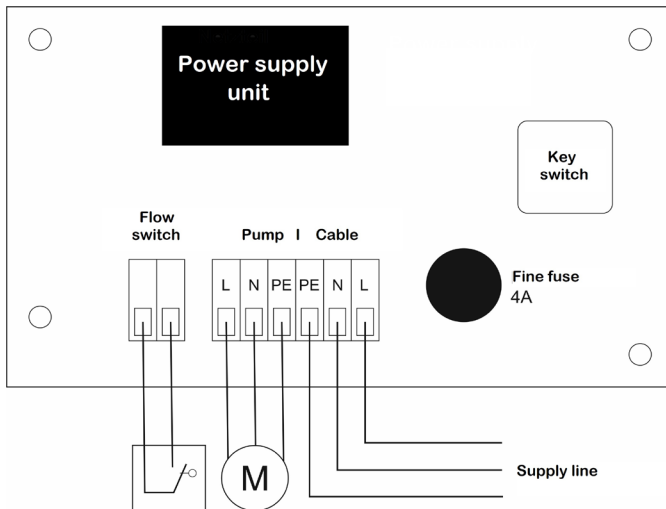

Fig. 7 Key switch connection diagram
2. Feedback from the flow switch is expected within 2 minutes (closed contact on the orange terminals (see Fig. 7)).